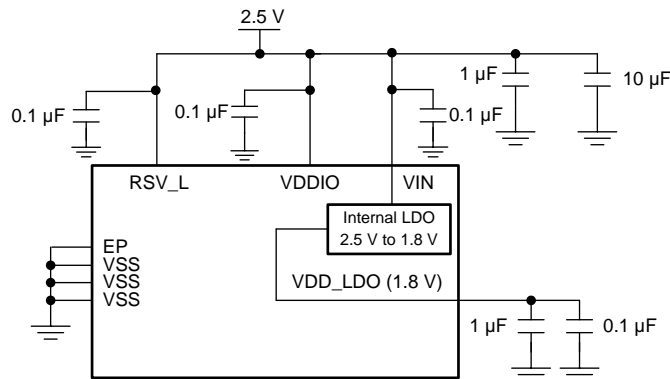

Figure 24. Single 2.5 V Supply Mode - Compatible with LMH1219
- Single 2.5 V Supply Mode:** This mode offers ease of use and pin compatibility with the LMH1219 (11.88 Gbps Ultra-HD Adaptive Cable Equalizer with Integrated Reclocker). The internal circuitry receives power from the on-chip 1.8 V regulator. In this mode, 2.5 V is applied to VIN, VDDIO, and RSV_L. This mode supports SPI or SMBus serial interface. See Figure 24 for more details.